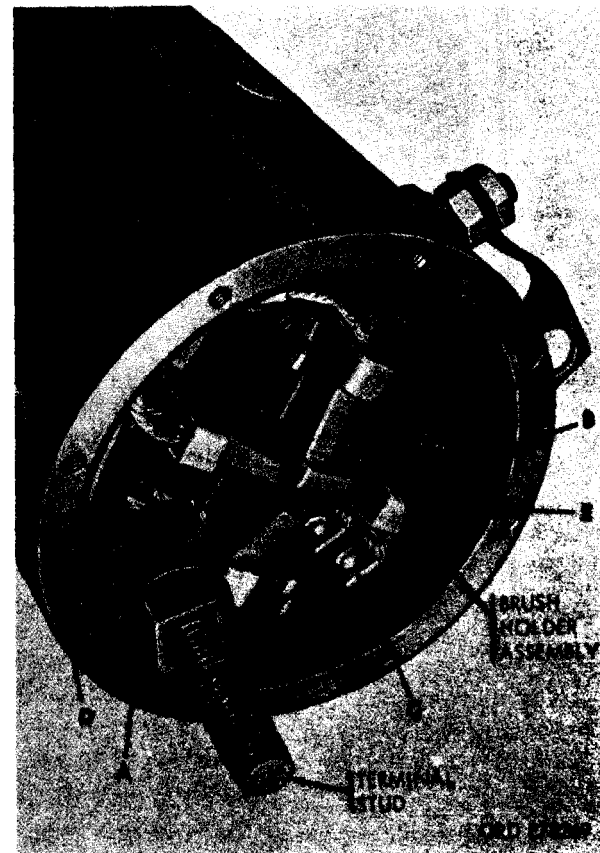

Figure 4-10. Removing or installing brush holder assembly.
f. Remove *Brush Holder Assembly*. Refer to figure 4-10 and remove brush holder assembly